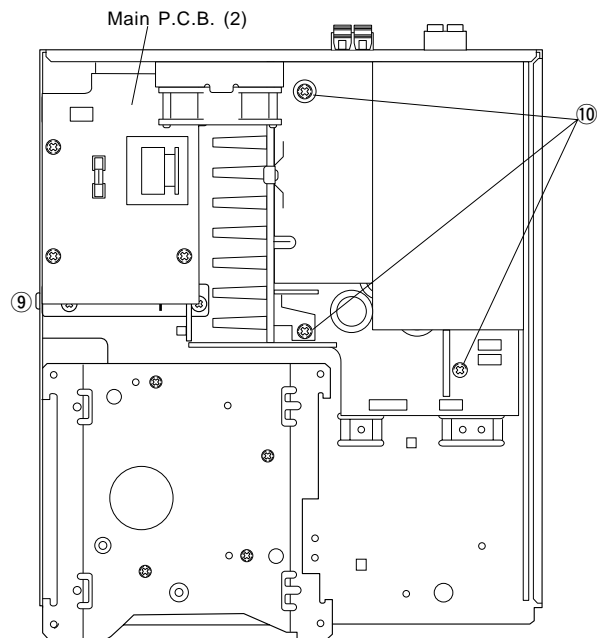

Fig. 7
- f. Remove 1 screw (9) and then remove the P.C.B. Main (2) in Fig. 7.
- g. Remove 3 screws (10) in Fig. 7.